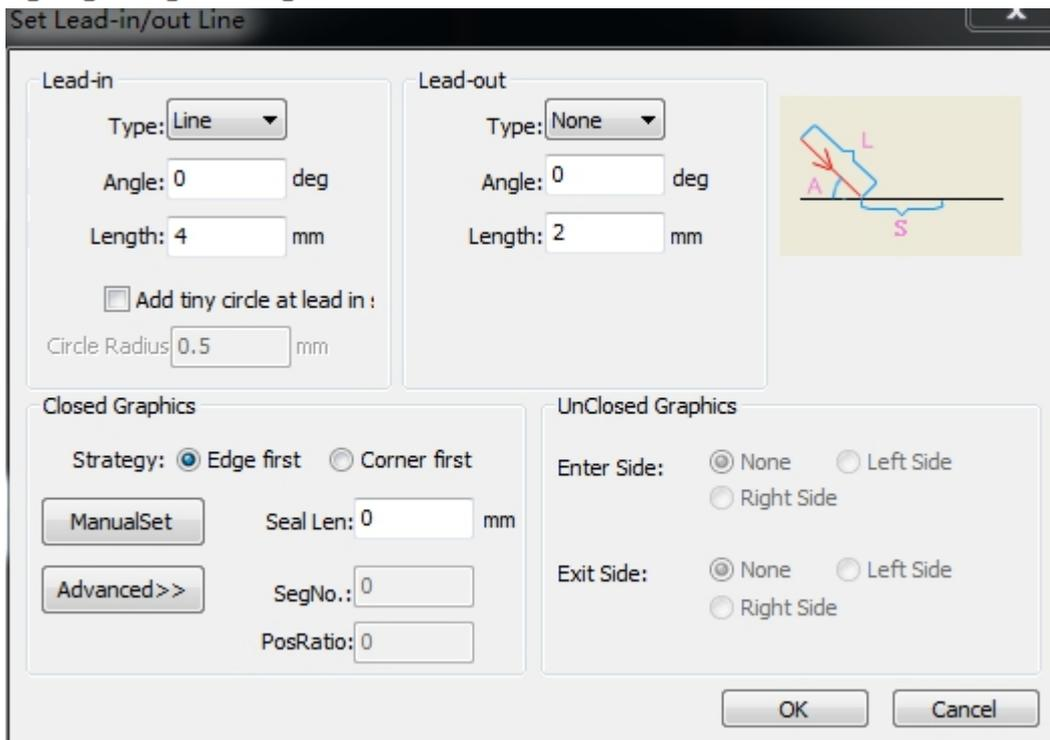

Fig.3.7
2. Lead-in/out line: Select the graphics that needs to set lead-in/out line, then click the “Lead Line” icon on the “Technology” menu bar, and set the parameters of lead-in/out line in the pop-up window, as shown in the figure 3.7: